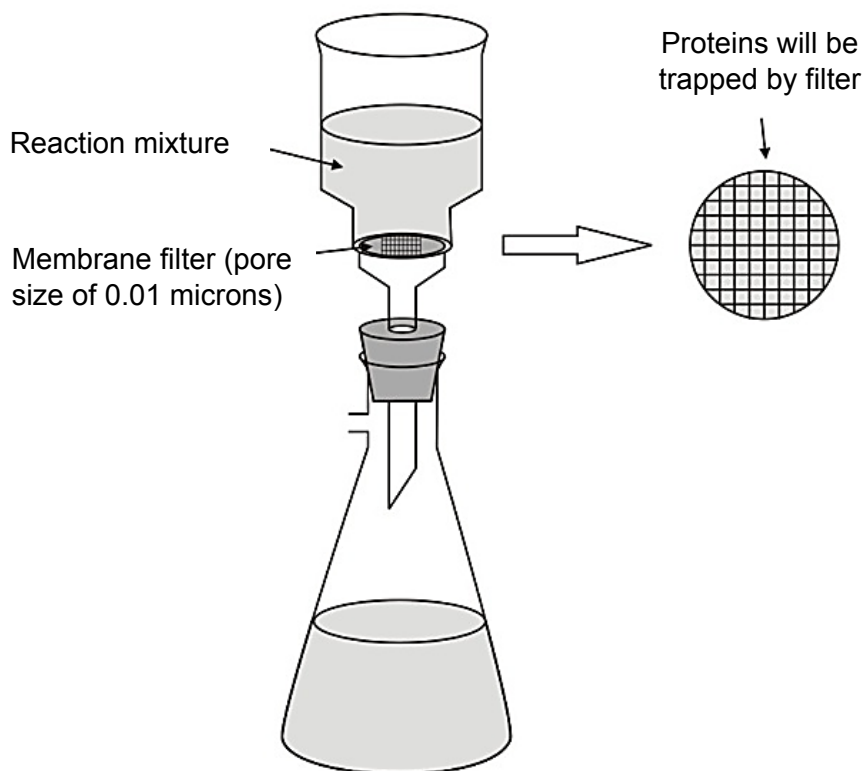

Fig. 3.1
- apparatus shown in **Fig. 3.1**, can be used to separate proteins from ions and disaccharides,